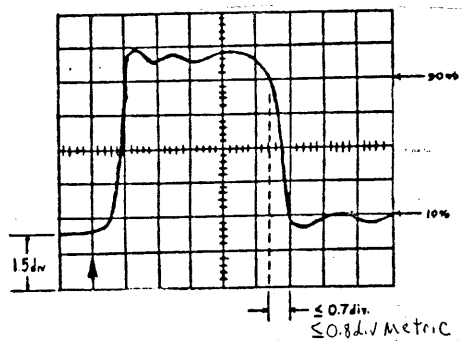

Figure 1
- C) Slowly turn the zero Ref set clockwise, until the falling edge of the pulse is on the second graticule line up from the bottom. (Do not move the position control) (See fig. 1)
- D) Measure the falltime (reflected risetime) from the the point where the falling edge of the pulse is touching the second graticule down from the top to where it touches the second graticule line up from the bottom. (See fig. 1)